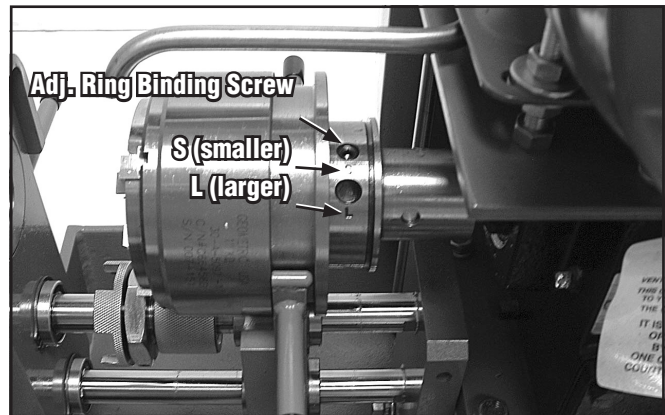

Figure 9
- 5.4.3 Then insert a metal pin tool or rod into the hole in the adjusting ring next to the adjusting ring binding screw and use the tool to rotate the adjusting ring until the desired pitch diameter is obtained. The die head adjusting ring is marked with an "S" (smaller pitch diameter) and an "L" (larger pitch diameter) to indicate the direction to turn the ring to adjust the pitch diameter smaller or larger (Figure 9).